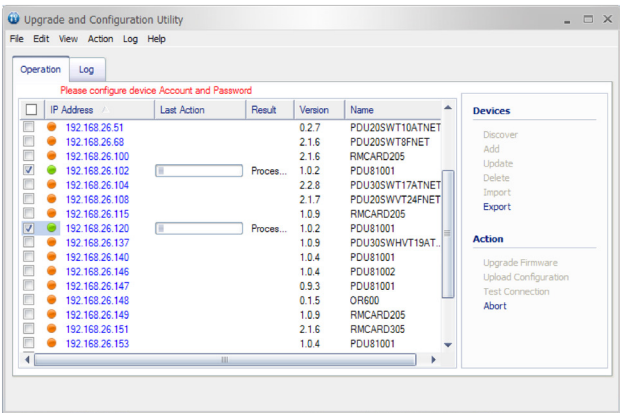

Figure 6
9. The upgrade progress bar will show in **Last Action** column (Shown in Figure 6).